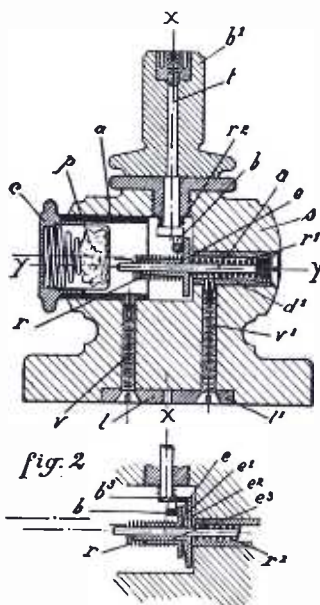

FIGURE 3
FIGURE 3: A simple regenerative hook-up in which the antenna circuit is tuned with a condenser, the secondary is tuned with the tapped coil, and the plate circuit is tuned by a variometer.
ANSWER: We have drawn the circuit correctly for you; if you use it as shown in Figure 3 your set will work.
A. Bonnefont has devised an interesting improvement in crystal detectors for locating the sensitive spots while the crystal is enclosed so that dust and grease cannot touch it and which also allows variation of the pressure of the metal point on the crystal. (See Figure 3.)